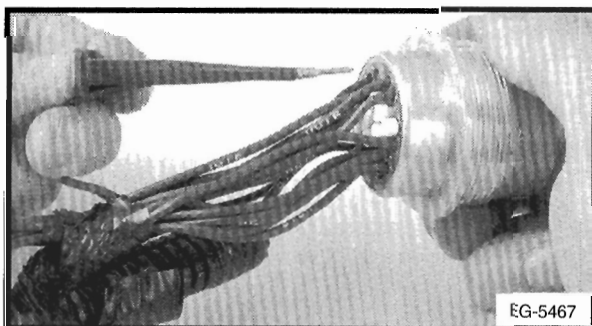

Figure 6-5. - Contact Removal From Connector
3. Pull the contact/wire/tool assembly out of the connector (**Figure 6-5**).